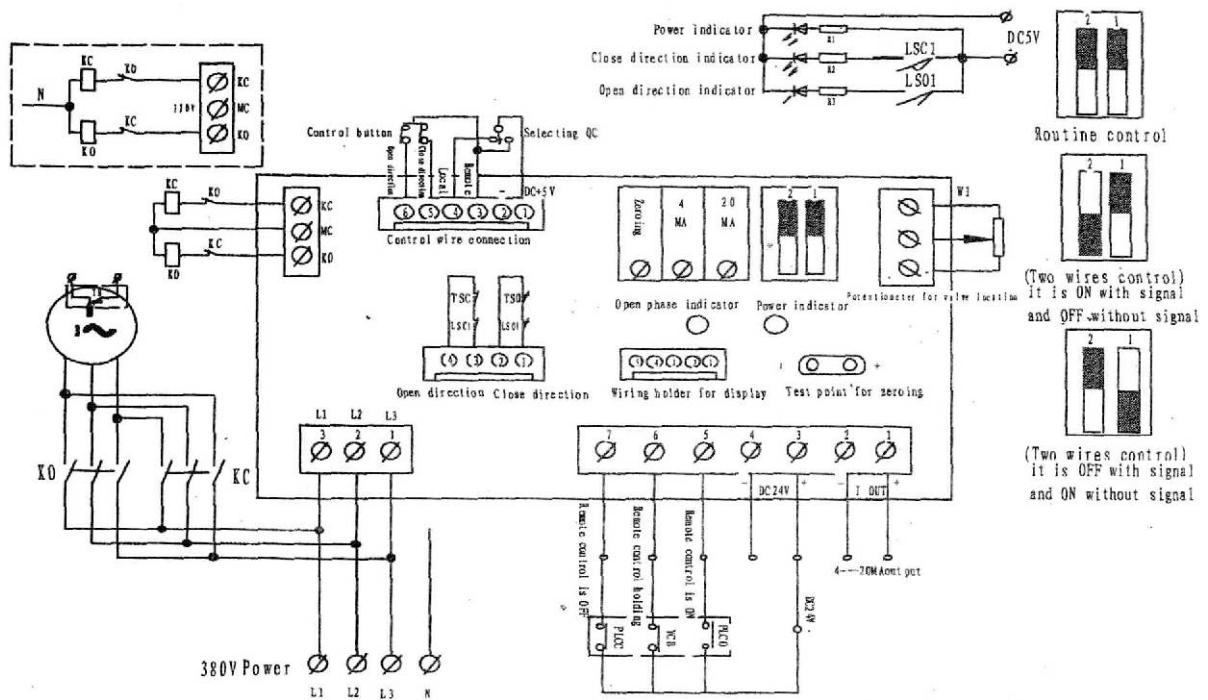

Figure 11
5.8.2 Refer to the Figure 11 for the schematic diagram of electric control of integral type and integral explosion-proof type.